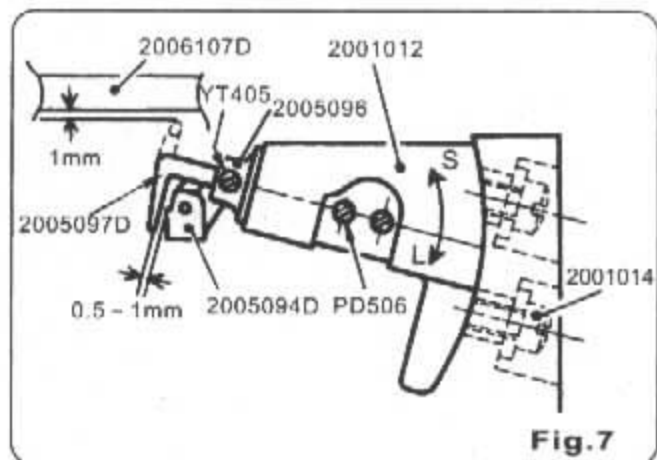

Fig.7
- If the clearance does not fall within the specified range, loosen screw (2001014) of looper shaft bearing (2001012), as shown in (Fig. 7), and move up looper shaft bearing (S) to make the clearance smaller or move it down (L) to make the clearance larger. Firmly tighten the screw of looper shaft bearing after the adjustment.
Thread retainer (2005097D) has to catch the looper thread before lower looper (2005094D) enters the needle thread loop. It is to be adjusted so that the clearance between thread retainer and lower looper is 0.5 to 1mm when the retainer begins its upward movement and lower looper is at its farthest right position. For this adjustment, loosen screw (YT405) of the retainer and move the retainer as necessary (Fig. 7). Loosen screw (PD506) of spreader lever (2005095) and turn spreader lever shaft (2005096) as necessary, so that the clearance between the point of the retainer and throat plate (2006107D) is 1mm at the time when the retainer is facing upwards to its full extent.